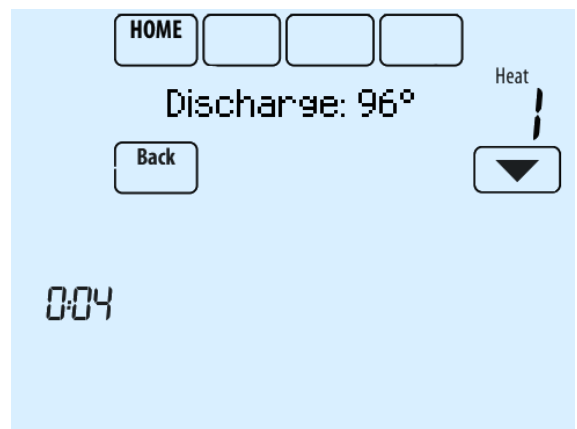

Fig. 26.
2. Run Time and Discharge temperature are displayed for heating and cooling tests (requires Discharge Air Sensor). See Fig. 26.